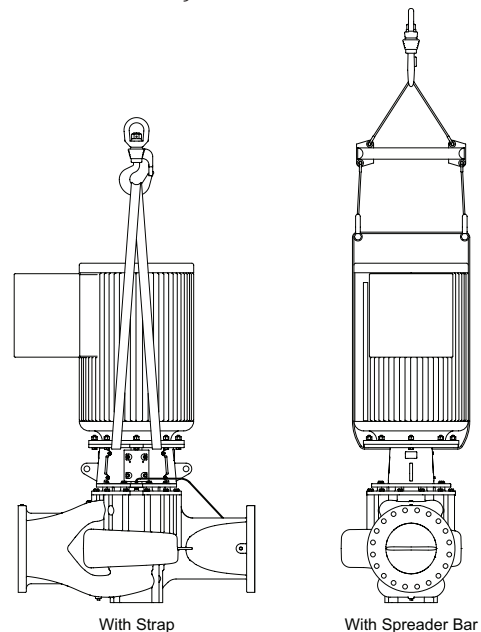

Figure 1
- Handling, transportation and installation of this equipment should only be undertaken by trained personnel with proper use of lifting equipment. See “Uncrating and Lifting” Figure 1 shown below for reference.
2. Place lifting straps/slings on each side of the coupling through motor bracket as shown in the Figure 1 below.